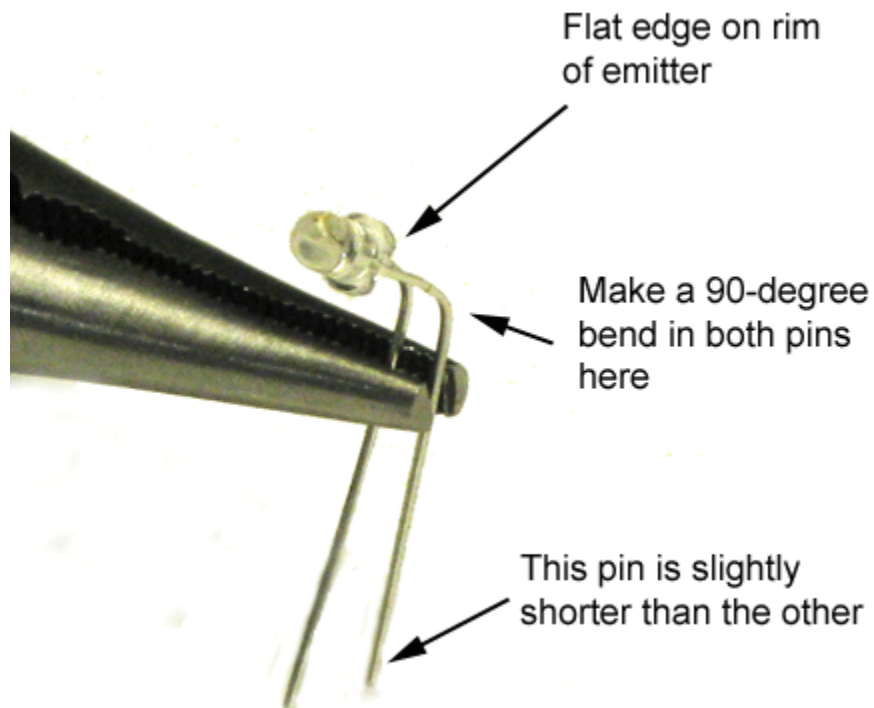

Figure 4. Bending the infrared transmitter.
5. Look closely at the infrared transmitter. Find the flat edge along rim of the diode, and the shorter of the two pins. Carefully bend a 90-degree angle in the two pins, keeping the transmitter oriented as shown in Figure 4.